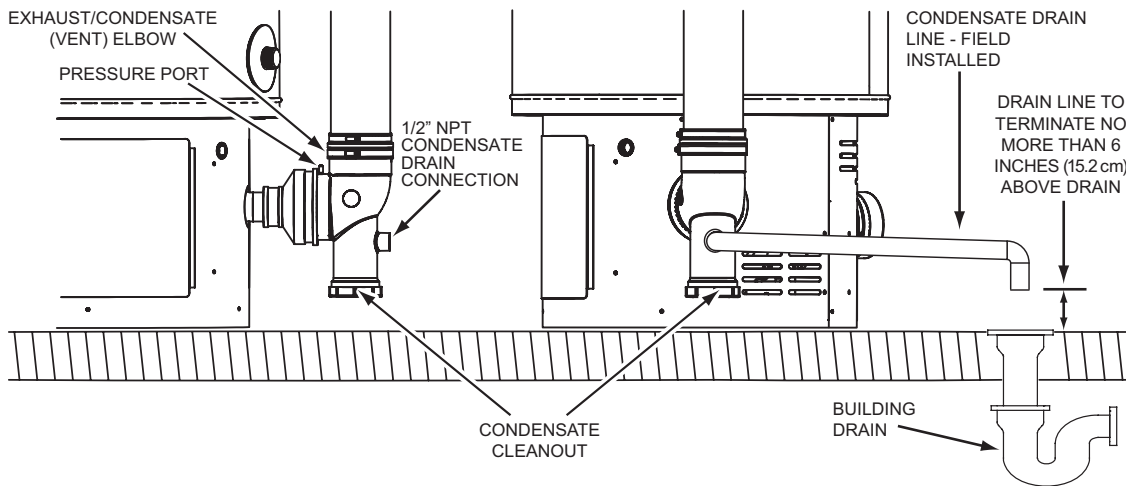

Figure 35
2. Install a 1/2 inch PVC condensate drain line between condensate drain connection on the Exhaust/Condensate Elbow and a suitable building drain with a slight downward slope to drain. The exhaust elbow has a "built in" condensate trap. Do not install an additional trap in the condensate drain piping. See Figure 35.
3. Terminate the condensate drain piping with an elbow above the drain. Ensure that any discharge will exit the condensate drain line no more than 6 inches (15.2 cm) above a suitable building drain, or external to the building, see Figure 35.
4. Ensure the condensate drain line is not elevated above the condensate drain connection on the Exhaust/Condensate Elbow, see Figure 35.